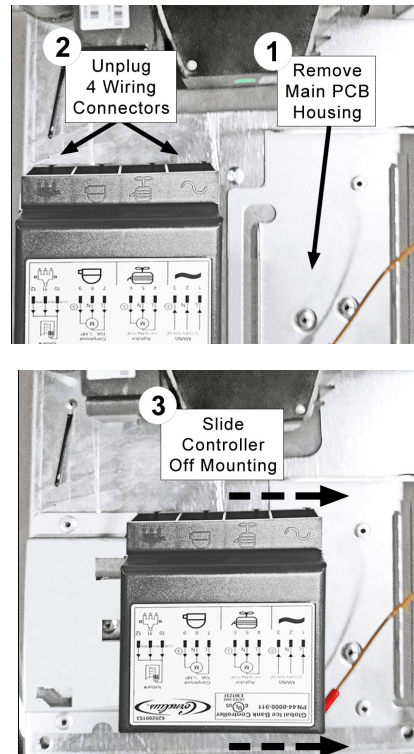

Figure 6-16 - Ice Bank Controller Module Removal
- 4) Unplug the four wiring connectors from the ice bank controller module (Fig. 6-16).